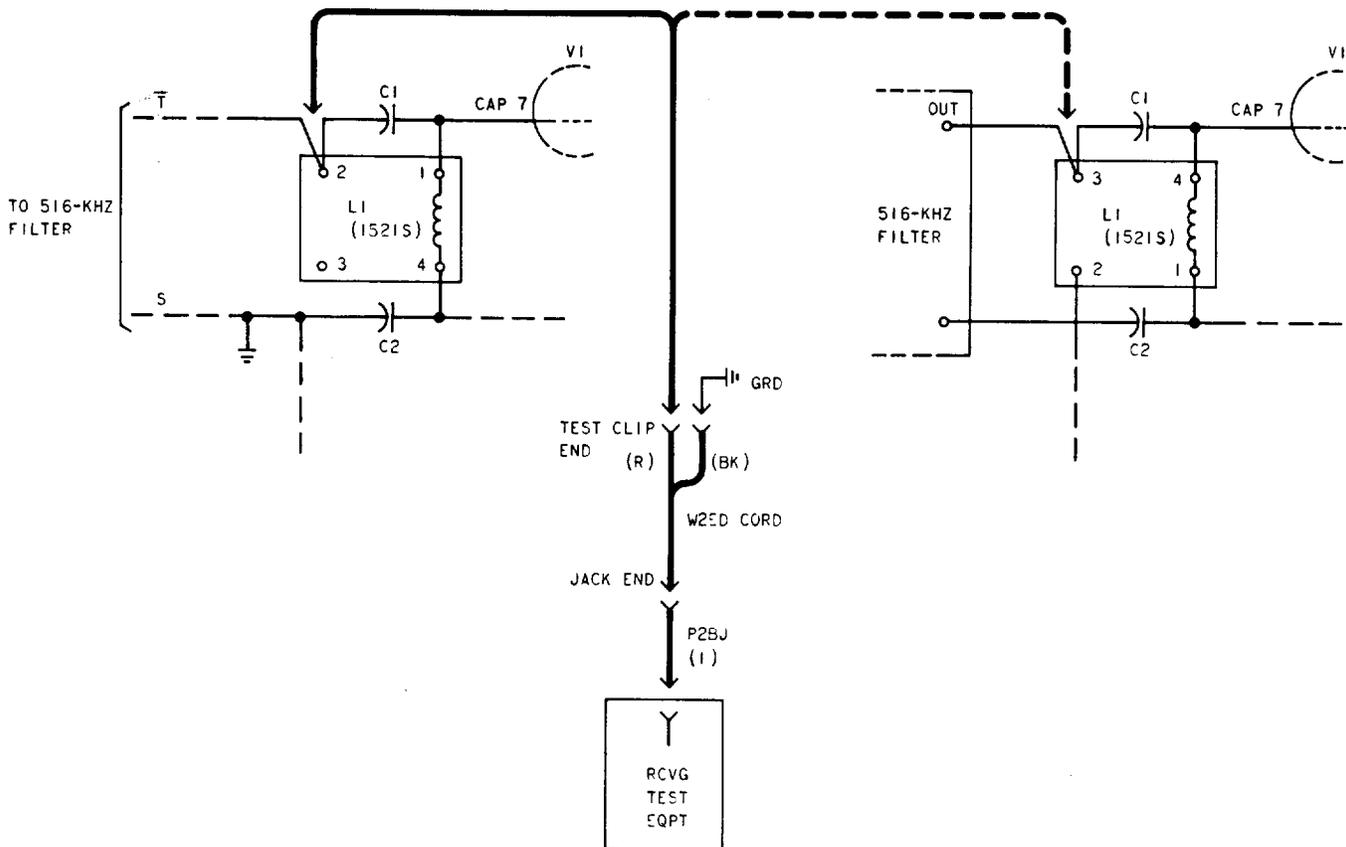

Fig. 3—Test Patch Using W2ED Cord
- 8 Connect a W2ED cord to the RTE [patch (1), Fig. 3].
- 9 Depending on the type of intermediate frequency converter under test, connect the W2ED cord to inductor L1 as shown in Fig. 3.
13	Remove the W2ED cord and patch (1), Fig. 3.